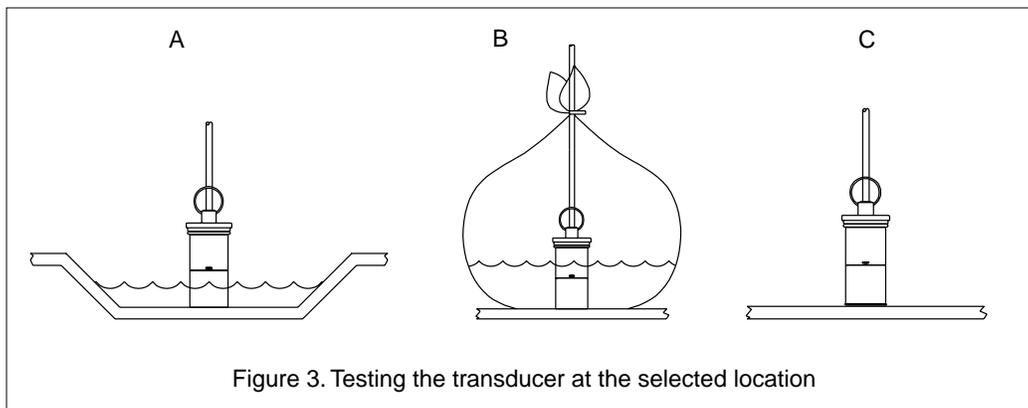

Figure 3. Testing the transducer at the selected location
A. This method is recommended if the transducer will be located near the stern and the boat has a minimum deadrise angle. Clean away any build-up of dirt and/or grease using detergent or a weak solvent such as alcohol. Place the active face of the transducer against the hull. Flood the area with bilge water to cover the area where they touch (see Figure 3-A).
This method can be used at any location. If the hull surface is not smooth, grind it with a disc sander. Partially fill a thin plastic bag with water and place the transducer insert inside the bag. Close it tightly with a twist-tie. Wet the surface of the hull and press the active face of the transducer insert against it through the bag (see Figure 3-B).
This method can be used at any location. If the hull surface is not smooth, grind it with a disc sander. Coat the active face of the transducer insert with a **water** based lubricant (such as K-Y® jelly). Press it against the hull with a twisting motion (see Figure 3-C).